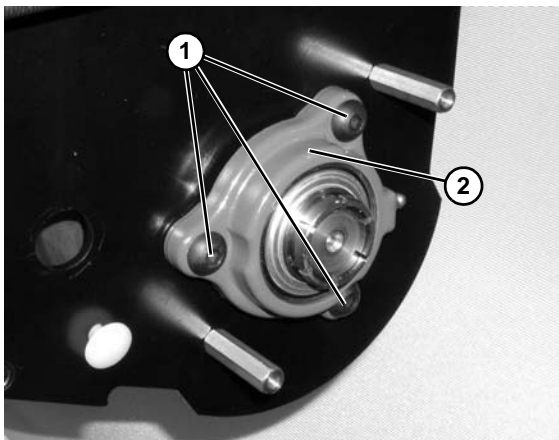

Figure 132
4. Remove the three (3) mounting screws (**Figure 132, item 1**).
5. Remove and replace housing assembly (**Figure 132, item 2**).
6. Tighten three (3) mounting screws (**Figure 132, item 1**) to 200 in-lbs (22.5 N-m).